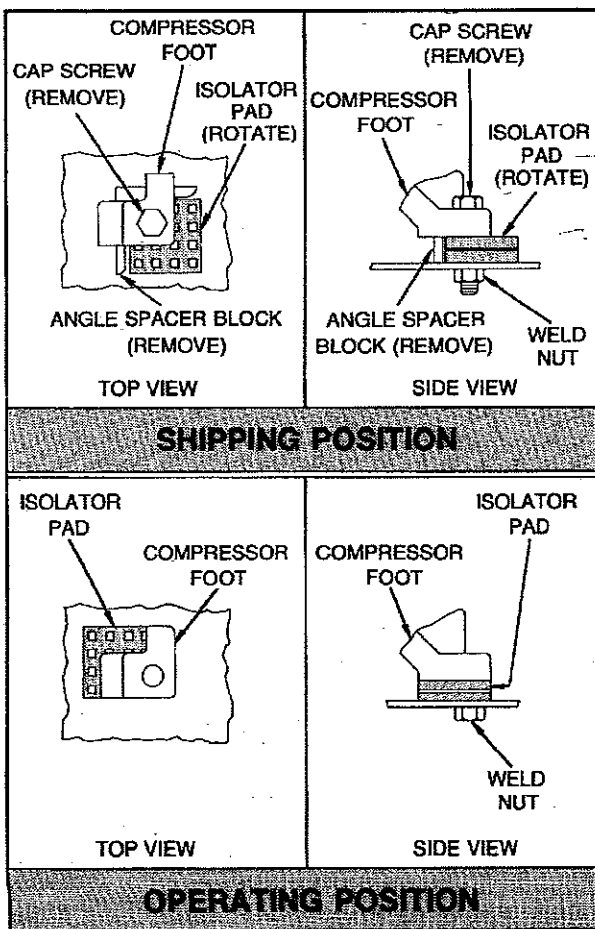

FIGURE 9 - Isolator Pad Adjustment for Model R Compressor
1. Remove the cap screw from the compressor foot and isolator pad. See Figure 9.
3. Rotate the isolator pad under the compressor foot to line up with the foot, as shown in Figure 9.
3. Rotate the isolator pad under the compressor foot, as shown in Figure 9.